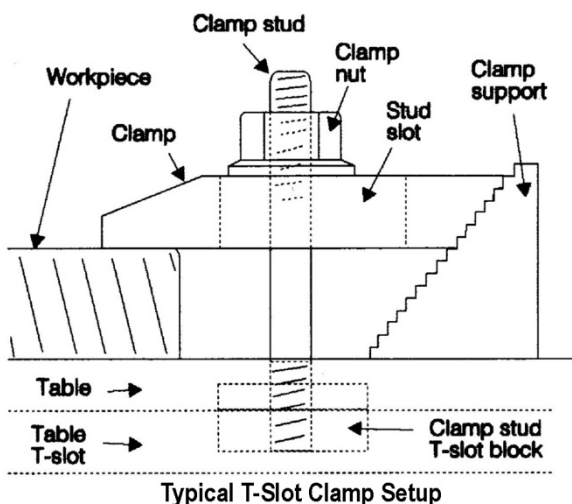

Figure 19
4. Clamp the work piece using the T-slot clamps, studs, and step blocks as required (Figure 19).